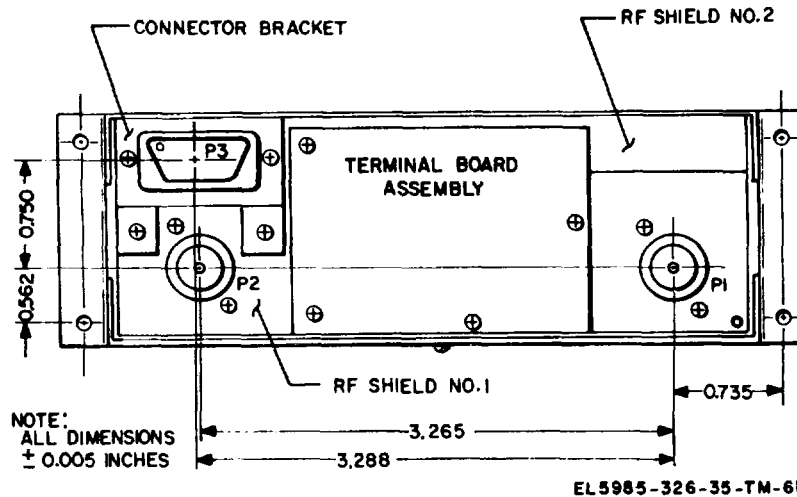

Figure 4-14. Discriminator A8, Connector Positioning Diagram.
Observe relative positioning of the RF shields and the transformer as shown in figure 4-14.
(11) Rewire the terminal board (50 with terminals, 56 without terminals, or 9 with all components soldered in place) as necessary. Also, rewire resistors, A8R1 (66) and A8R3 (65) in the resistor holder (67) as necessary.
(12) Mount resistor A8R9 (15) to the terminal board (50) with screw (-19), flat washer (-18), and nut (-16).
(13) Mount the terminal board assembly (9) to the RF shields (81 and 86) with three screws (-12) and spacing sleeves (-10). Mount terminal board assembly (9) to the transformer (63) with screw (-13), spacing sleeve (-14), and spacing sleeve (-11).
(14) Mount connector A8P3 (6) to the connector bracket (4) with two screws (-8) and nuts (-7).
(15) Mount the connector bracket (4) to RF shield number 1 (81) with two screws (5). Do not fully tighten the screws (-5) at this time.
(16) Mount housing (1A) to fully assembled discriminator A8 with seven screws (-2, -2A) and lockwashers (-3).
(17) Refer to figure 4-14. Position connectors A8P1 (76) and A8P2 (73) as shown, and then fully tighten the mounting screws (-77 and -74). Position connector A8P3 (6) as shown, and then tighten the